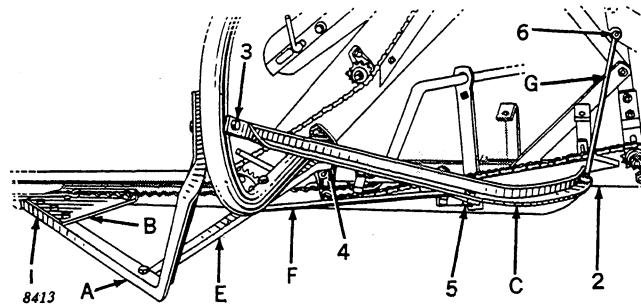

Figure 100
1. (Figure 100) Loosely attach left-hand angle brace "A" to underside of platform with three bolts. Secure reinforcing plate "B" to platform rear side and angle brace "A."
2. (Figure 100) Bolt right-hand angle brace "C" to main frame.
3. (Figure 100) Bolt braces "A" and "C" to seat pipe. Be sure to attach angle brace "A" at proper hole to level and take the twist out of platform.
4. (Figure 100) Bolt cross tie channel "E" to seat pipe and to brace "A."
5. (Figure 100) Bolt cross tie strap "F" under seat pipe and to brace "C."
6. (Figure 100) Attach round brace "G" to power drive rear support plate and to angle brace "C."